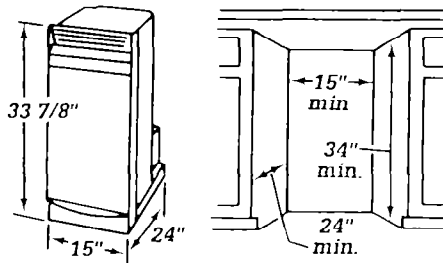

Figure 4
3. Select a cabinet opening to fit the compactor. (See Figure 4.)